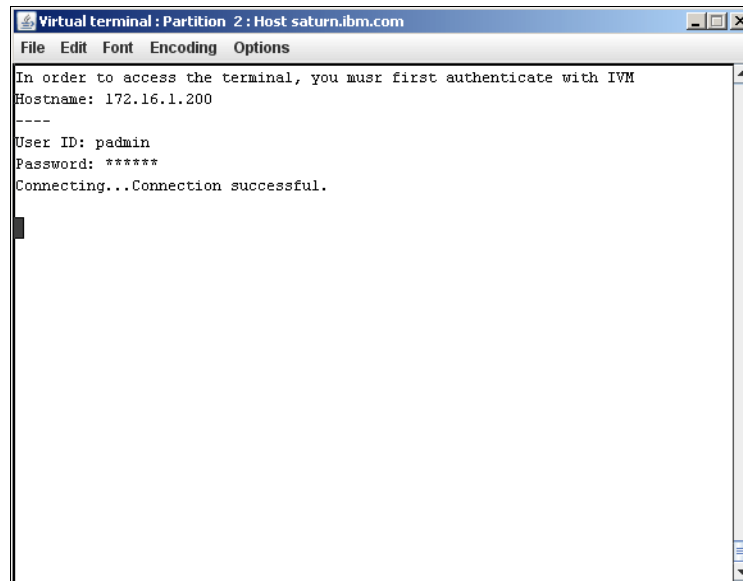

Figure 6-30 Virtual terminal connection
4. Authenticate on the Virtual IO Server to get the virtual terminal connected. You may use the account padmin with the default password padmin here in case you have not yet created your own account. After the authentication is done, a message will be shown that the terminal has connected, as shown in Figure 6-30.